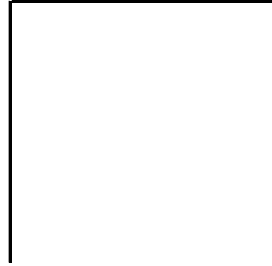

Figure 8-2 Shape of the Thermal Paper Edge
(2) Procedure for installing the thermal paper by the auto-loading (the platen block in the close state)
- Well-cut the thermal paper edge with scissors and cutter knife. Cutting the thermal paper edge perpendicular to paper feed direction, shown in Figure 8-2.